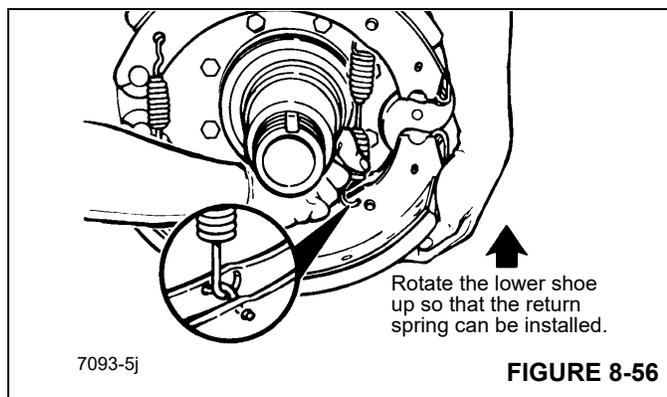

FIGURE 8-56
2. Rotate the lower brake shoe forward and install a new brake shoe return spring (Figure 8-56).